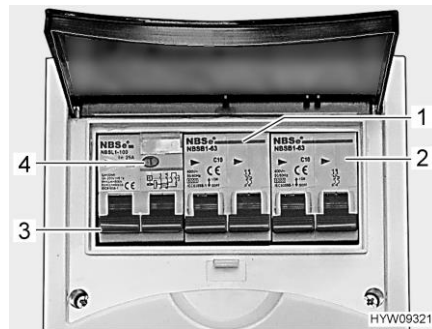

Fig. 165 Safety cutout and FI-switch
A fault current protection switch (FI-switch) (Fig. 165,3) in the fuse box protects the complete vehicle from fault current (30 mA).
The downstream safety cut-out (10 A) (Fig. 165,1) secures the 230 V sockets, the transformer/rectifier, the auxiliary charging unit and the refrigerator.
For vehicles with special equipment, e.g. roof air conditioning unit, the device is protected by an additional safety cut-out (16 A) (Fig. 165,2).
- When the vehicle is connected to the 230 V power supply, press the test button (Fig. 165,4). The fault current protection switch (FI-switch) must be activated.